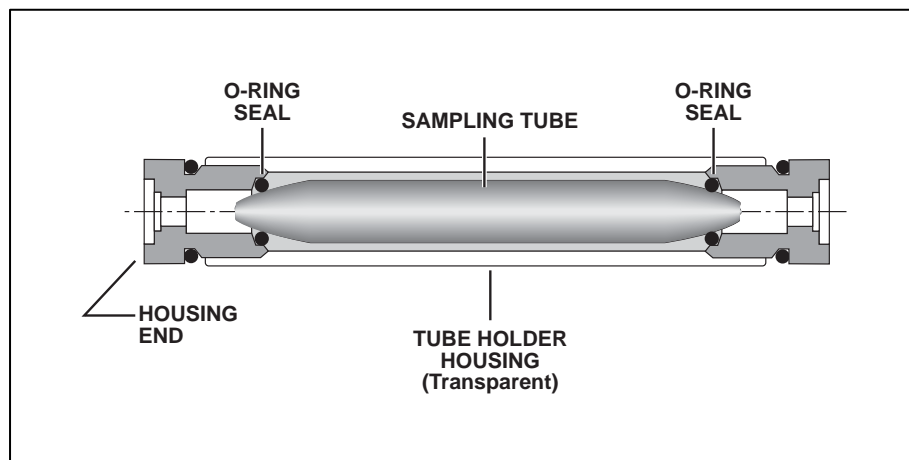

Figure 2: Cross-section of a typical tube holder with tube.
All fittings in the Gilian Dual Port High/Low Flow Manifold System contain O-rings to maintain an air seal and permit easy assembly. The see-through housings are ideal for colorimetric tubes. A cross-section of a typical tube holder with tube is shown in Figure 2.
- 1) Before you install the Tube Holder, refer to Figure 2 and make certain the Tube Holder Housing and Housing Ends are correctly matched.
- 5) Install the other Housing End and tighten gently. The sorbent tube will be contained and sealed with the O-rings (refer to Figure 2).